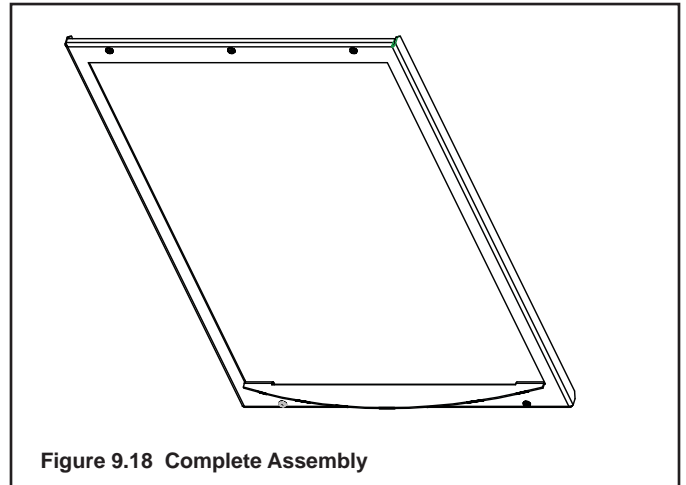

Figure 9.18 Complete Assembly
- Pull the four glass assembly latches out of the groove on the glass frame. Remove glass door from the appliance (see Figure 9.18).